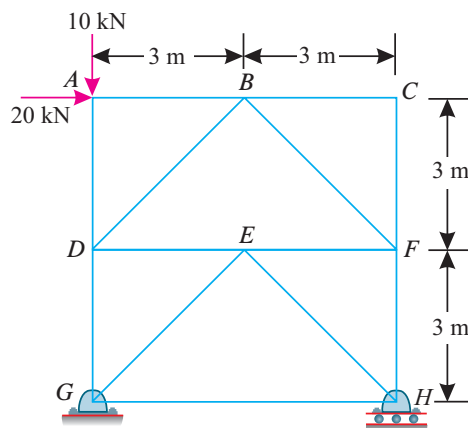

Fig. 14.56.
2. A truss is subjected to two point loads at  $A$  as shown in Fig. 14.56. Find by any method, the forces in all the members of the truss.